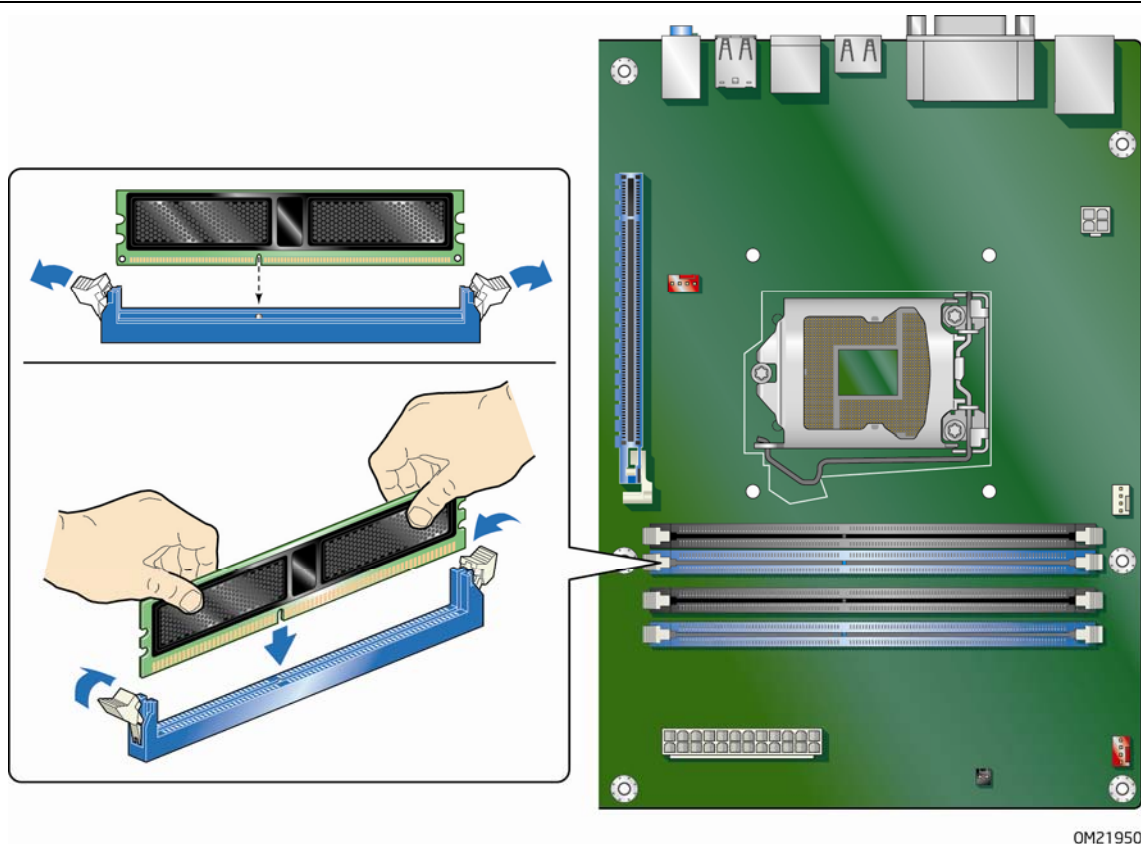

Figure 19. Installing a DIMM
3. Remove the computer's cover and locate the DIMM sockets (see Figure 19).
7. Position the DIMM above the socket. Align the small notch at the bottom edge of the DIMM with the keys in the socket (see inset in Figure 19).